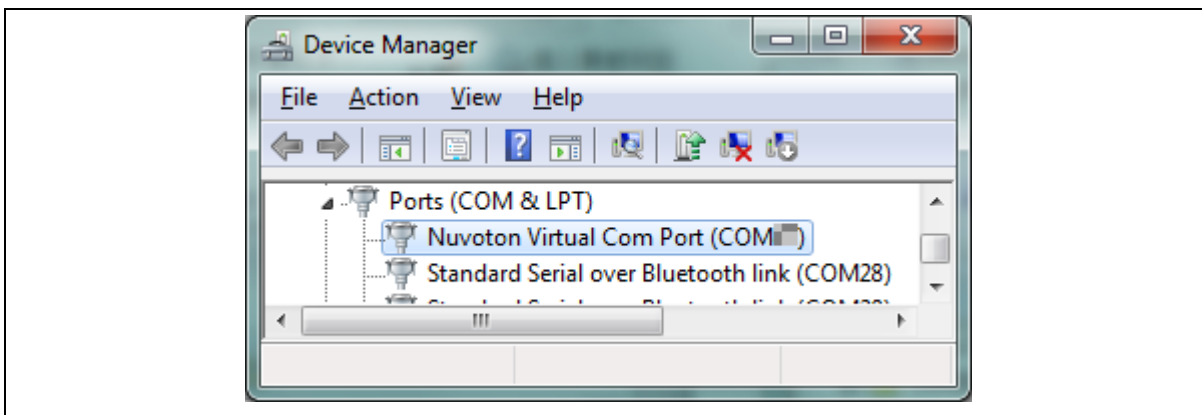

Figure 4-7 Device Manger (1)
2. Find the “Nuvoton Virtual COM Port” on the Device Manger as Figure 4-7.